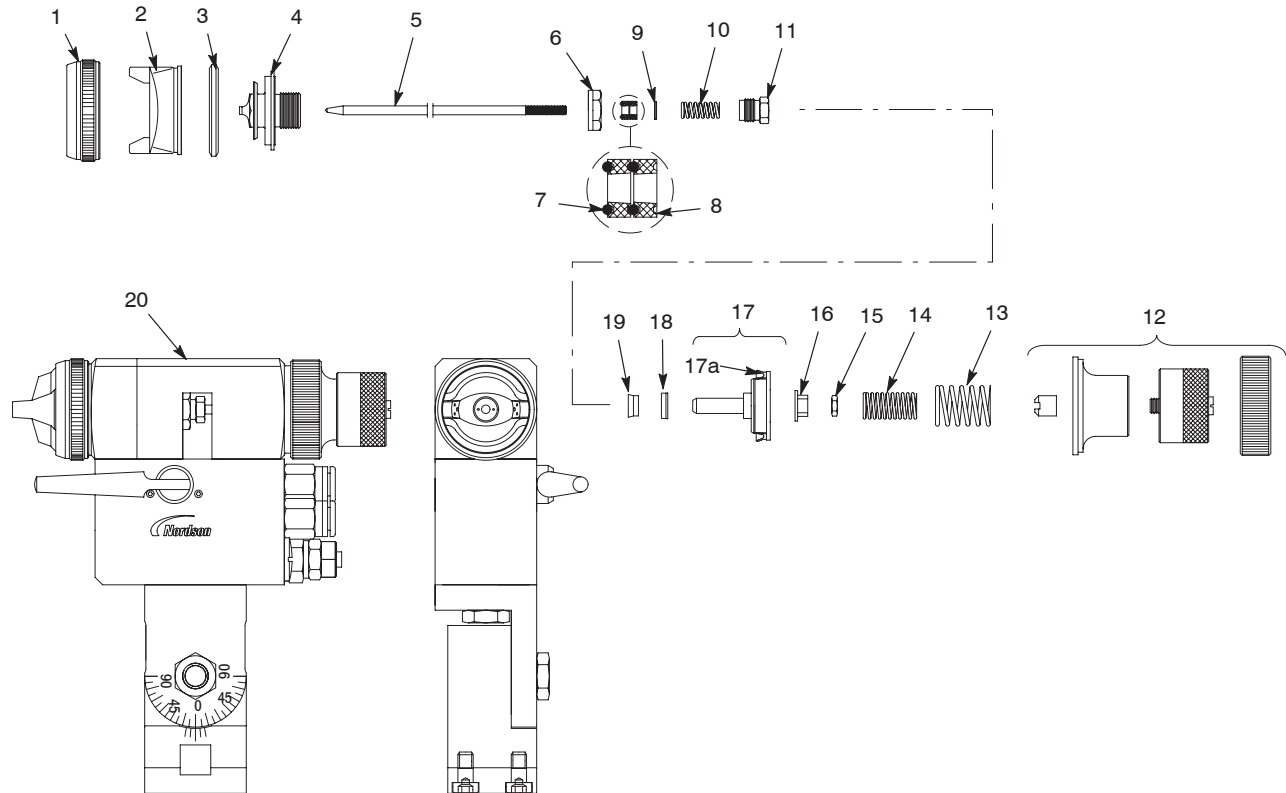

Figure 3 Trilogy LP Automatic Spray Gun Parts
These troubleshooting procedures cover only the most common problems. If you cannot solve a problem with the information given here, contact your local Nordson representative for help. See Figure 3 for parts information.
1. See Figure 3. Unscrew the air cap retainer (1) and remove the air cap (2), seal (3), and the nozzle (4) from the gun.
2. Inspect the seal (3) and replace it if damaged.
1. See Figure 3. The spring cap (12) is under spring pressure. Carefully unscrew the spring retainer nut and remove the spring cap.
3. Remove the jamb nut (15) and piston nut (16) from the old needle and install them on the new needle.
1. See Figure 3. Remove the needle as described in *Needle Replacement*.
2. See Figure 3. Remove the air cap and nozzle as described in *Nozzle and Air Cap Replacement*.
3. Unscrew the chamber nut (12) and slide it off the packing gland (11).
4. Remove the atomizing chamber from the front of the gun. Note the two seals (20) between the gun body and chamber. Do not lose these seals. Replace them if damaged.
5. Unscrew the packing gland (11) and remove the spring (10), disc (9), two O-rings (7), and two seals (8).